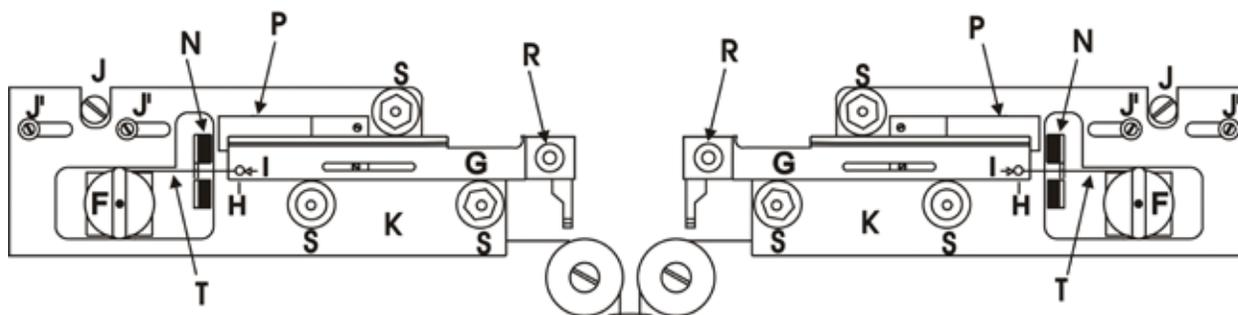

Figure 1-2. Upper Cable Pulley Assembly
This assembly conducts the PULLING CABLES (item **T** in Figure 1-2) from the PULLER BARS (**G**) to the centrally located (and concealed) LOWER CABLE PULLEY ASSEMBLY. Note that the UPPER CABLE PULLEY ASSEMBLY is attached to its panel by two screws, in slots (**J'**), and contains a large eccentric adjustment screw (**J**). This eccentric screw is used to adjust cable “tension”. Its use is covered in the maintenance section.
**PANELS, LEFT & RIGHT** (K in Figure 1-2) The panels are the angled surfaces that provide mountings for the PULLER BARS (G) and their BEARINGS (S); the SPRING STOPS (P); the BUMPERS (N); and the UPPER CABLE PULLEY ASSEMBLIES (F). Note the three socket-head cap screws that attach each PANEL to the top (J and J'). These screws are used to align the PULLERS BARS. Their use is covered in Chapter 5 (MAINTENANCE).
**BUMPERS** (N in Figure 1-2) The BUMPER stops the motion of its associated PULLER BAR (G), and prevents impact forces from breaking pipettes.
**SPRING STOPS** (P in Figure 1-2) The SPRING STOPS are one-way catches that prevent pipette tip collision by catching the PULLER BARS (G) as they rebound off the BUMPERS (N).
**PULLER BARS** (G in Figure 1-2) This assembly consists of the puller bar, glass clamp, clamping knob (R) and cable retaining screw (H). The puller bar is made of mild steel and coated with a controlled thickness of hard chrome. Glass is loaded into the groove near the tip of the puller bar and is held in position by tightening down the clamping knob (R). The cable retaining screw (H) holds the cable in a shallow groove (I) at the end of the puller bar, and forms the “resistance” against which the cable ends pull.
**V-BEARINGS** (S in Figure 1-2) These bearings are the guides for PULLER BAR motion. They are made of stainless steel and should NEVER be oiled (see maintenance section). These bearings are mounted on stainless steel bushings, one of which is round with the other two being hexagonal. The hexagonal bushings are used to adjust position and ease of travel of the PULLER BARS (see Chapter 5 (MAINTENANCE)). Note that the V-bearings MUST have a significant amount of play for the puller bars. Under no circumstances must the play be eliminated, as this may irreversibly damage the puller bars!
**PULL CABLE** (T in Figure 1-2) This cable conducts the pulling force of the solenoid to the PULLER BARS (G) via the UPPER (F) AND LOWER PULLEY ASSEMBLIES. It is made of flexible metal with a nylon coating. Never pinch or distort the cable. The cable is terminated with crimped-on clamps or “swages”. Note that the cable is mechanically connected to the puller bar by the cable retaining screw (H), not by the swage. Should the swage point out of the plane of the puller bar, this indicates that the retaining screw may have become loose, and the puller cable tension needs to be checked (see Chapter 5 MAINTENANCE).